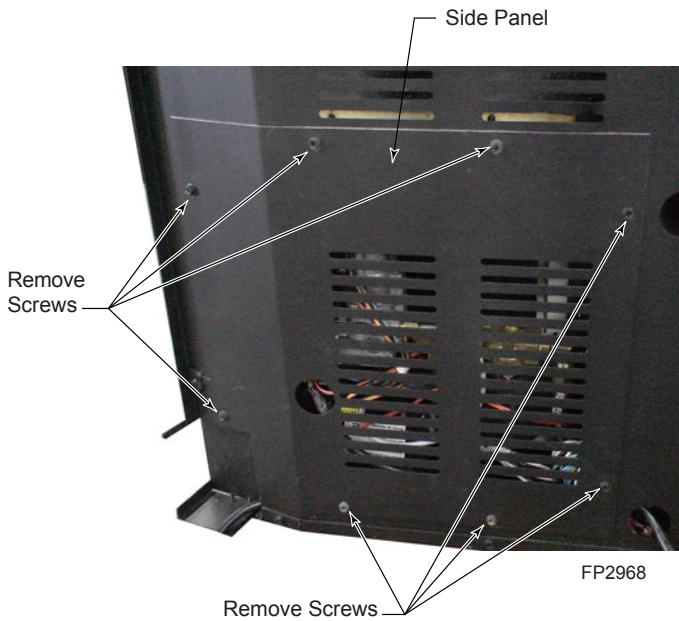

Figure 13 -
1. Remove panel on right outside of insert by removing eight (8) screws. Retain panels and screws. *Figure 13*